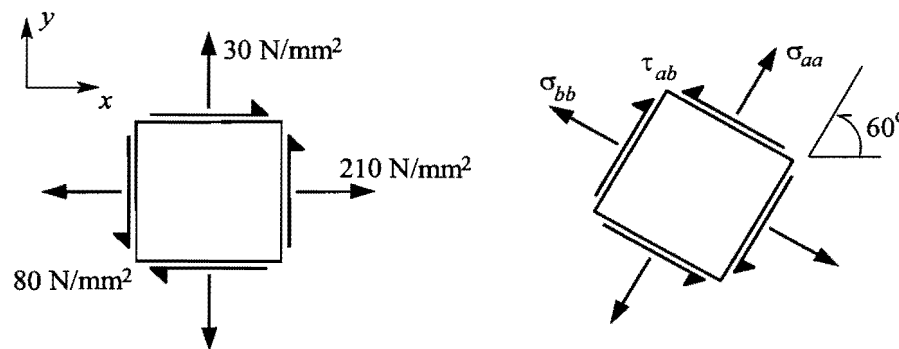

Figure 3
3. Figure 3 shows the stresses acting on the x and y faces of a small element of a thin plate.